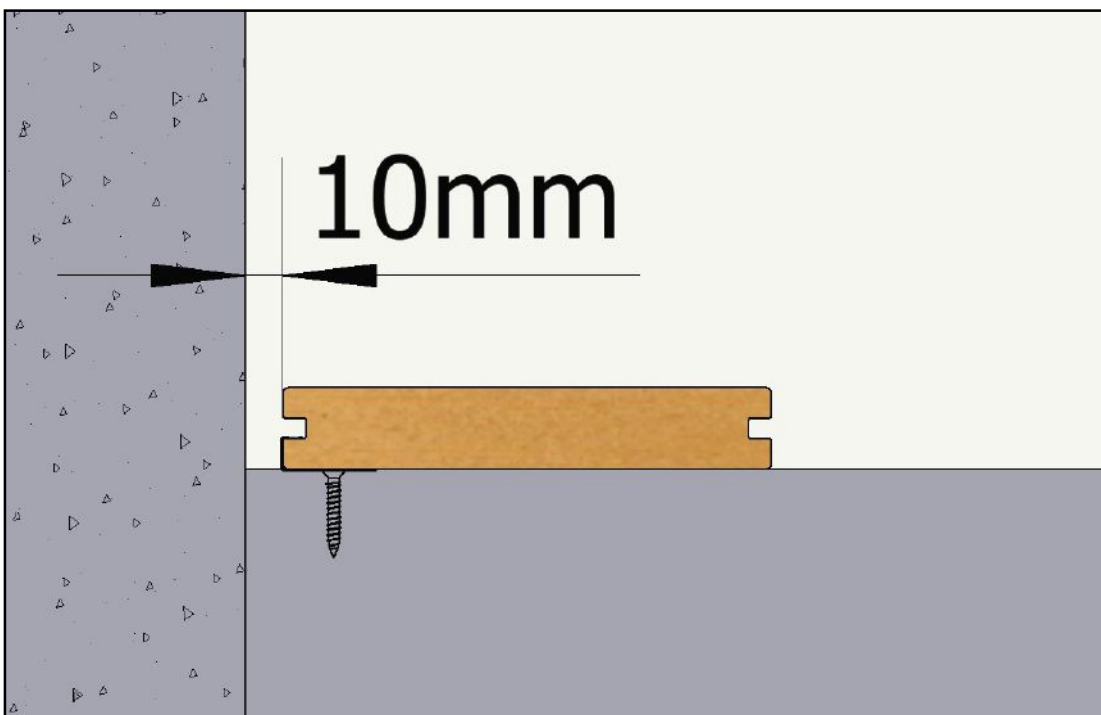

Figure 15
1. As shown in the figure 15, when installing against a wall or any obstacle, gap should be $\geq 10\text{mm}$.